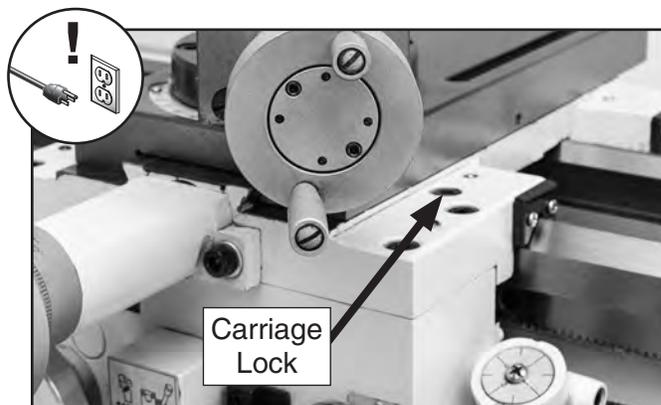

Figure 111. Location of carriage lock.
3. If carriage lock (see **Figure 111**) is tight, loosen it two turns.